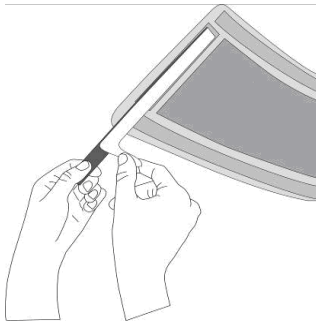

Figure 11
- To create tape leaders for each channel, pull back around 3: of red protective film that was previously left as overhang on the part (figure 11).